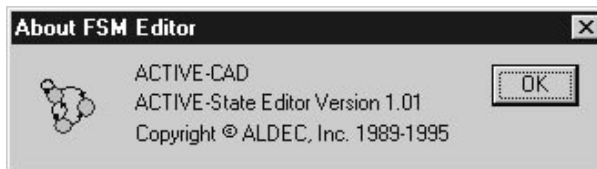

Figure 1-33. About State Editor Window.
- Help | About State Editor** - This option displays the information in Figure 1-33.